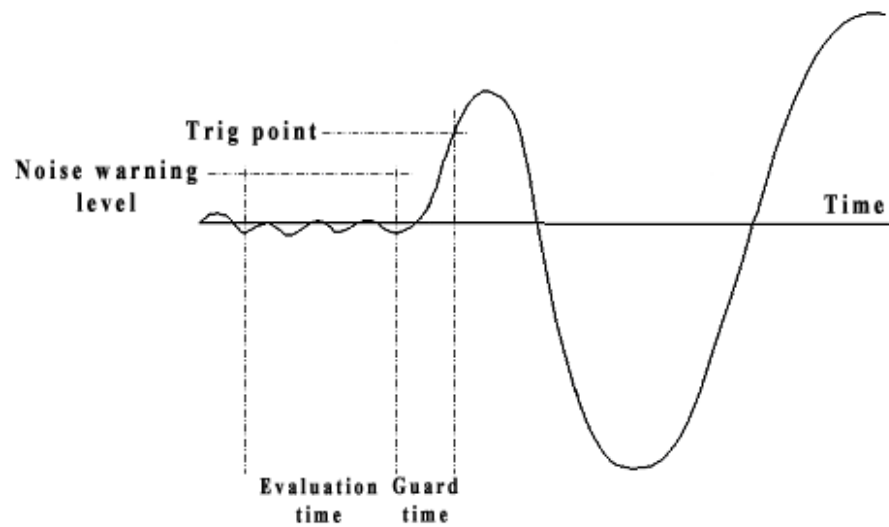

Figure 39 Trig signal from a geophone and the trig event
- The meaning is to warn when there is a risk that sampling was triggered on noise instead of signal level. A possible warning is shown in the status bar (see chapter 4.4.8). This setting, together with its three sub settings (below), decides how the evaluation is done. If the signal level is higher than the given level in connection with the trigger point then the warning is raised. Figure 39 illustrates the meaning of the involved settings.
Evaluation time [ms]	- The time window during which the signal level is checked against the Noise warning level . See Figure 39 above
Guard time [ms]	- A time window where the signal level is not checked. This is to avoid false warnings from the time just before the trig point. See Figure 39 above
Noise warning level [%]	- The threshold level for the noise warning. See Figure 39 above